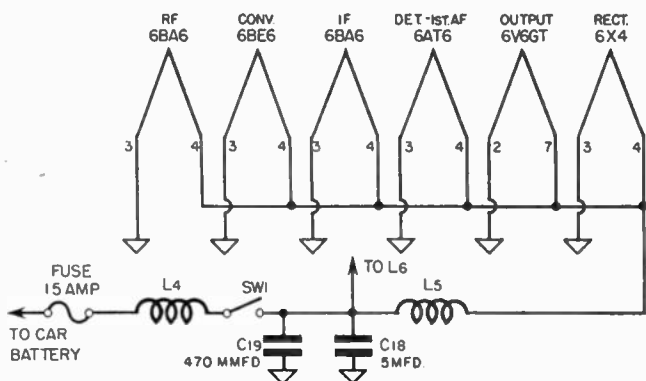

Fig. 8-24. Auto radio heater circuit.
a) Heater Circuit. See Figure 8-24.